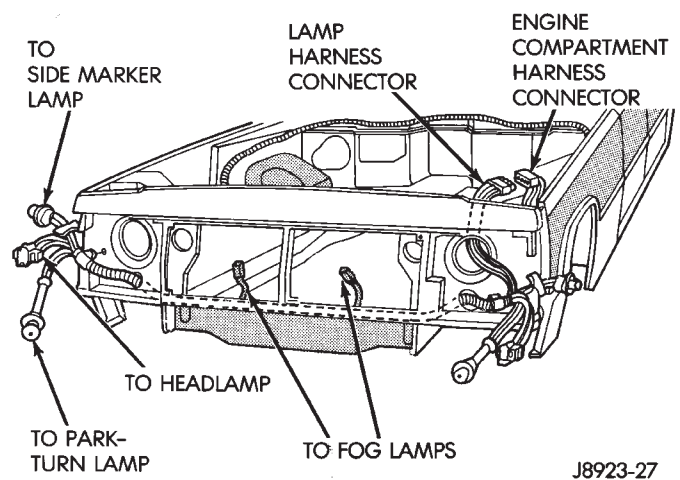
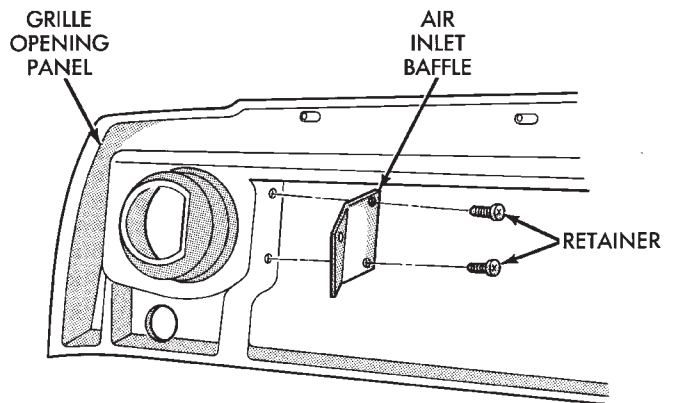

Fig. 7 Front Lamp Wire Harness Connectors
Fig. 8 GOP Air Inlet Baffles
(8) Pull the grille opening panel (GOP) forward and disconnect the clips and all the front lamp harness connectors (Fig. 7).
(9) Remove the grille opening panel (GOP) from the vehicle.
(10) If necessary, remove the air inlet baffles from GOP (Fig. 8).